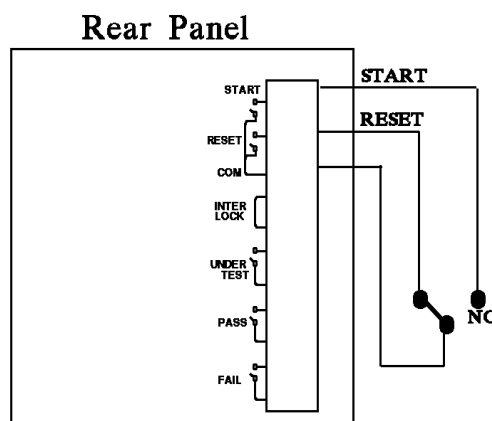

Figure 4-6
2. If it is connected as Figure 4-6 shows, the system routine is in STOP state as the NC is connected to STOP and NO is connected to START.